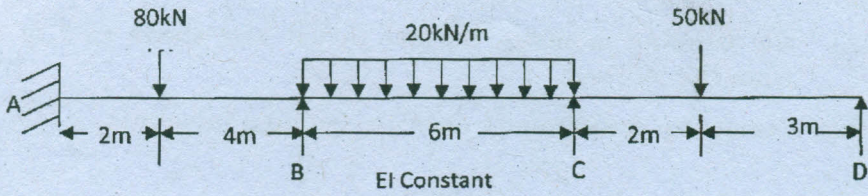

Fig. 6
15. (a) Analyse the continuous beam loaded as shown in Fig. 6 by the method of moment distribution. Draw the bending moment and shear force diagrams.